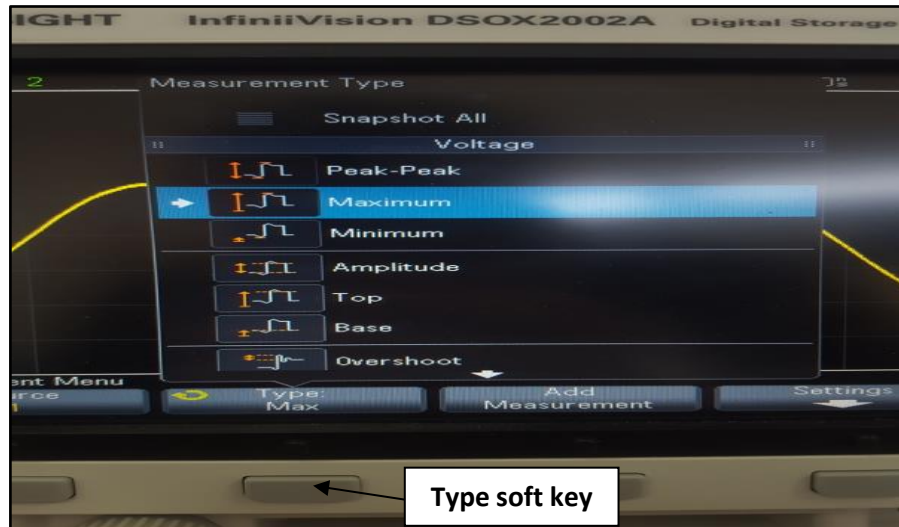

Figure 23: 'Type' softkey showing different measurement types
- In the measurement menu, Press the soft key under the “**Type**” option (Figure 23)